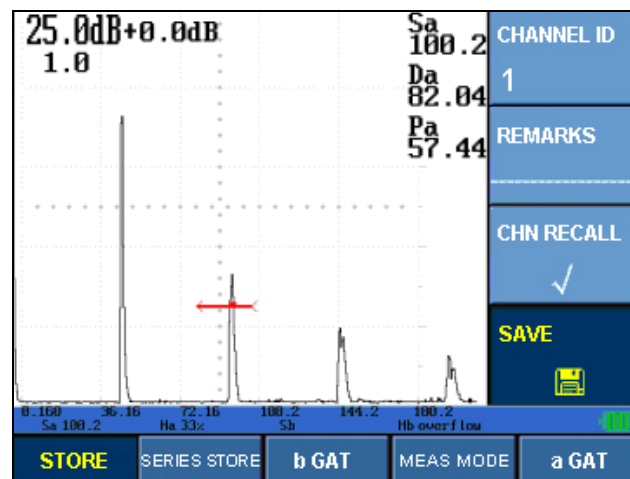

Figure 6-16 Parameter Store and Recall
- (1) Enter CHANNEL ID submenu under "STORE" main menu, menu interface as follows. Refer to Figure 6-16.